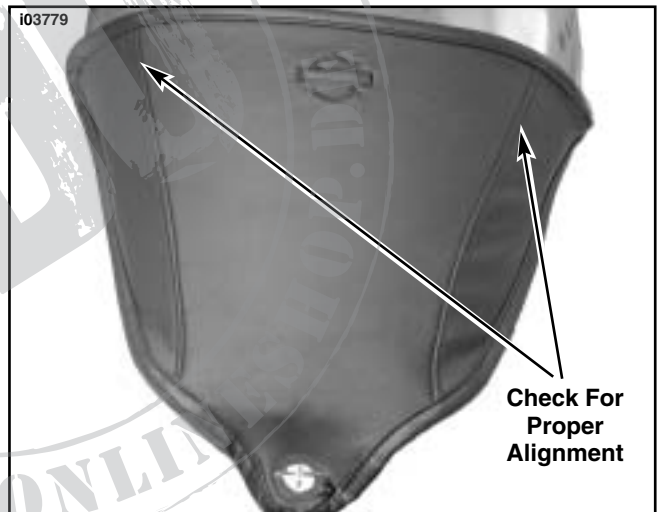

Figure 6. Airbox Cover Bra Installed
18. See Figure 6. Turn airbox cover over and check alignment of bra on cover. If bra is not centered, disengage Velcro® flaps from mating Velcro®, adjust bra, and re-engage Velcro®.